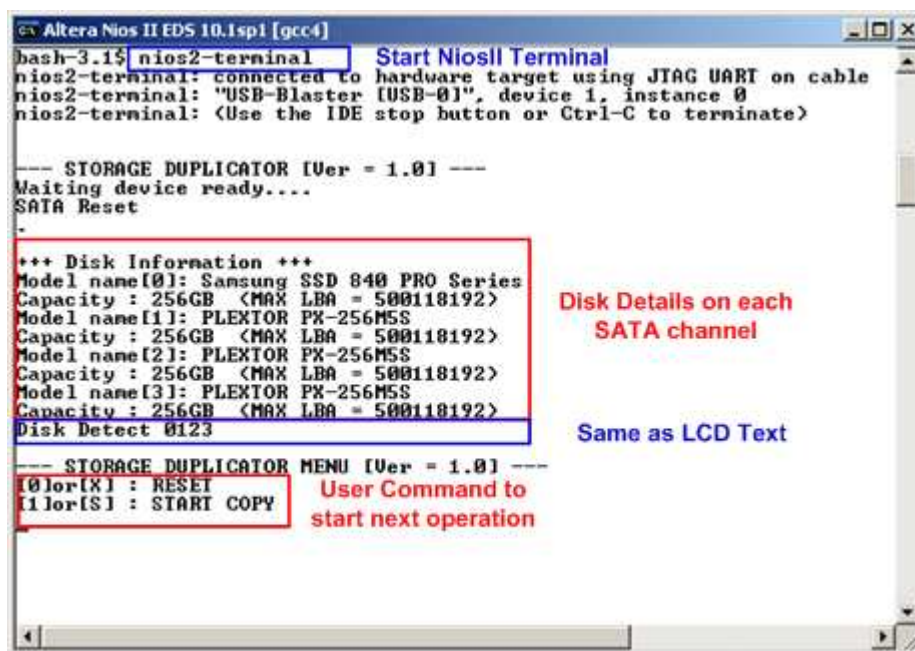

Figure 2-5 NiosII Command Shell
- Open NiosII Command Shell and type “nios2-terminal” for starting NiosII Terminal. Main menu will be displayed, as shown in Figure 2-5.
- a) As shown in Figure 2-5, NiosII Terminal displays Disk information and main menu when initialize complete. “Disk Detect XXXX” text message which has same description as LCD text are also displayed on Terminal. The main menu will be displayed for receiving next command from user.